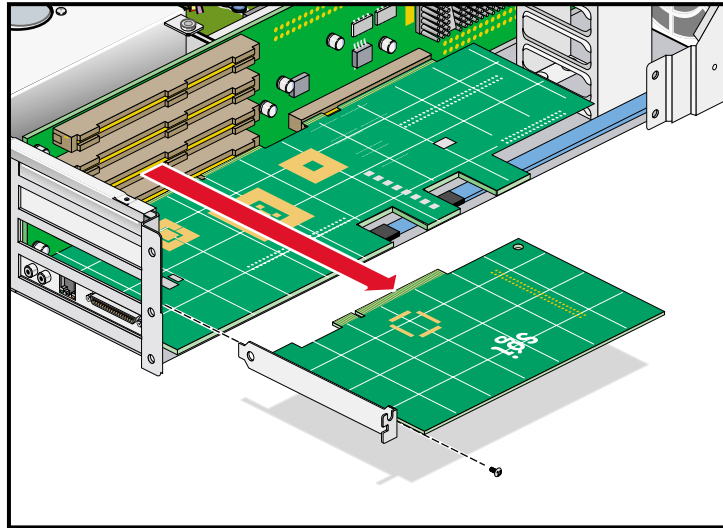

Figure 4-13 Removing the Retaining Screw and Extracting the Card
11. Unscrew the retaining screw from the card that you will remove, and extract the card, as shown in Figure 4-13. Place the card on an ESD-safe surface.